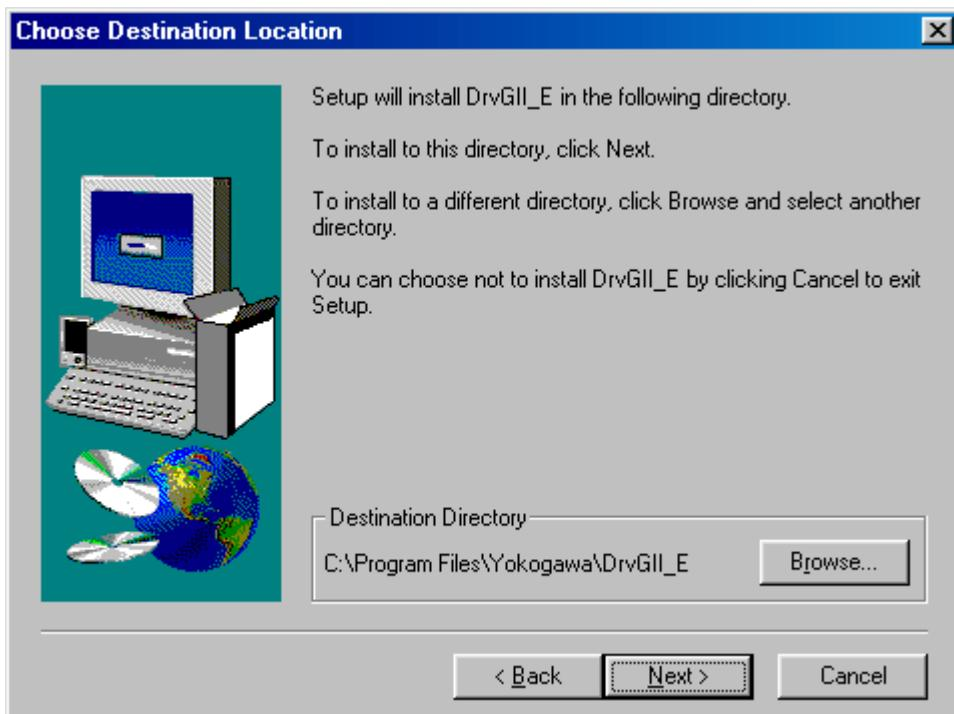

Figure 4.3.1 “Choose Destination Location” dialog box
The G2 PC utility (hereinafter referred to as the “PC utility”) runs on Windows 95, 98, 98SE, Me, WindowsNT4.0 and 2000. It can be installed via “Add/Remove Programs” under the “Control Panel” in Windows. If an older version of the PC utility is present, delete it first and then install the new version. Display the “Properties of Adding/Removing Programs” dialog box and click “**Set Up (1)**.” Then proceed according to the instructions displayed on the screen. The PC utility setup program starts up. Proceed with the setup according to the instructions on the screen. A dialog box for determining the directory in which to install the PC utility appears (see Figure 4.3.1).